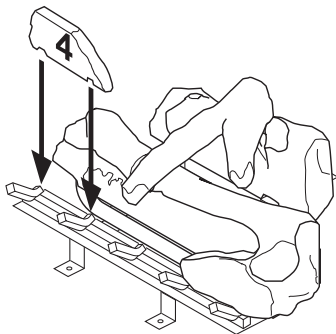

Figure 40 - Installing Log No. 4
5. Place log #4 (small log) onto front left part of grate making sure the notches fit over the prong of the grate. See Figure 40.